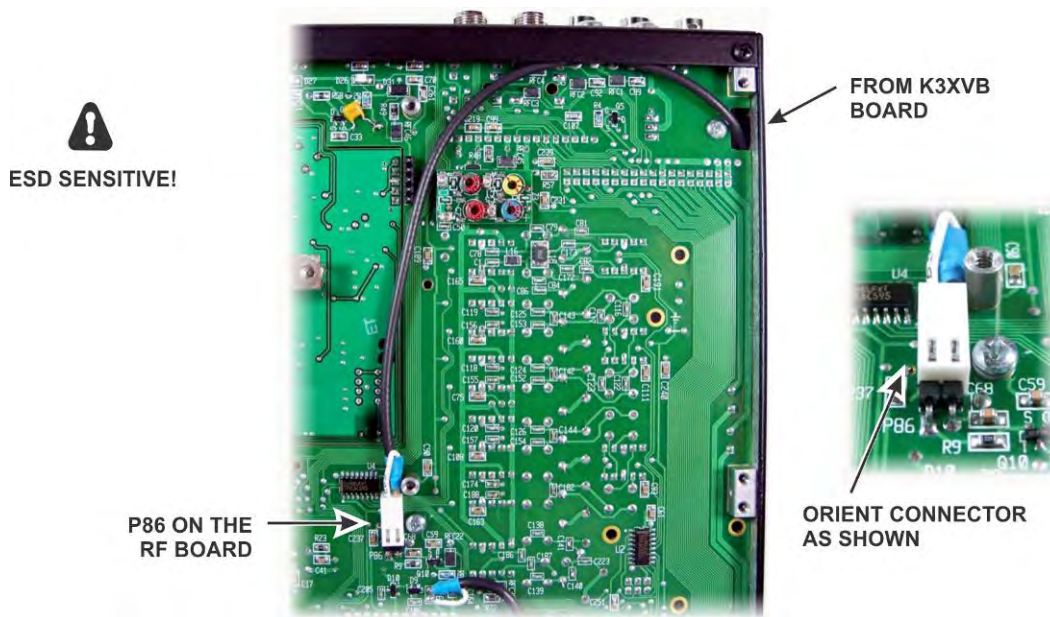

Figure 67. Routing the KXV3B Cable to P86.
- Turn the K3S over and plug the KXV3B cable into P86 on the RF board as shown in Figure 67.